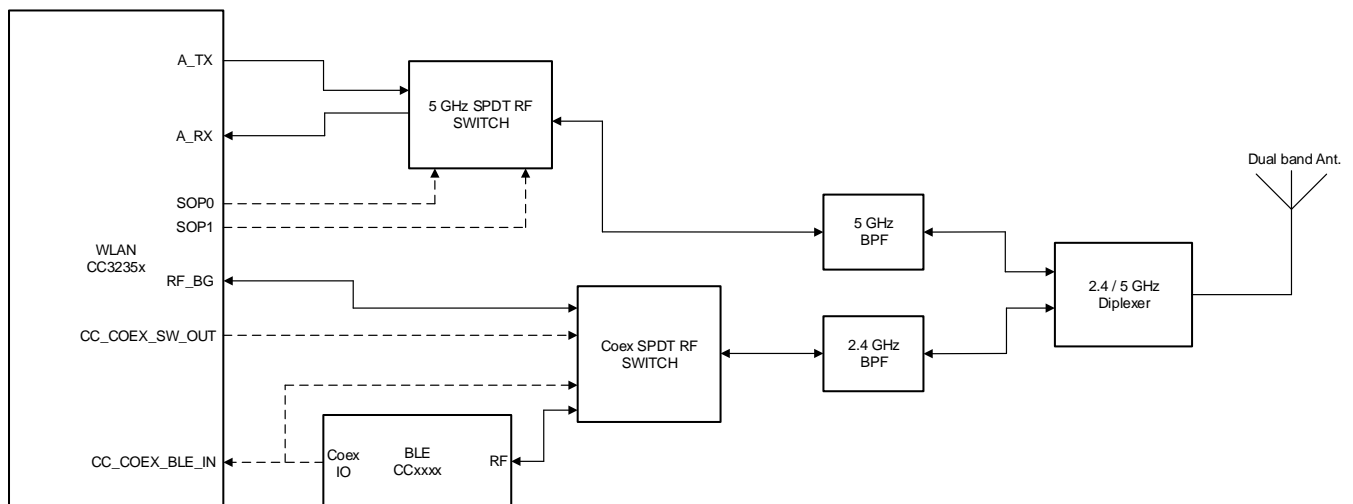

Figure 7-2. Single Antenna Coexistence Solution with 5 GHz Wi-Fi
- 5 GHz Wi-Fi band (see Figure 7-2)
Figure 7-2 shows the single antenna implementation of a complete Bluetooth® low energy and WLAN coexistence network with the WLAN operating on either a 2.4- or a 5 GHz band. The SOP lines control the 5 GHz switch. The Coex switch is controlled by a GPIO signal from the BLE device and a GPIO signal from the CC3235x device.